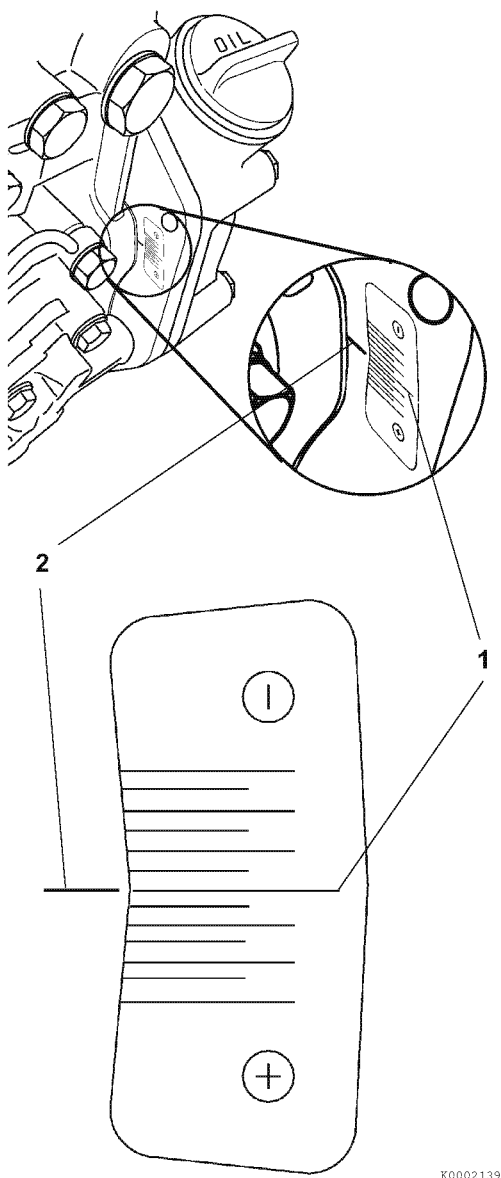

Figure 7-28
- Reinstall the timing grid sticker, provided with the new fuel injection pump, onto the back of the gear case/front plate (**Figure 7-28**). Align the “standard mark” (1, **Figure 7-28**) with the reference mark (2, **Figure 7-28**) made on the gear case during disassembly.